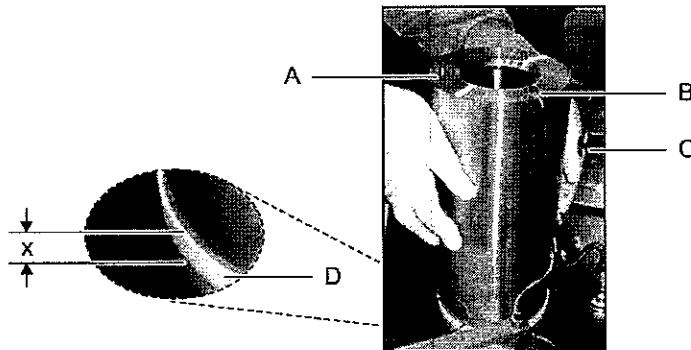

Fig. 6-11 Installation of shield hood
- 2 **Mount teflon strip and shielded hood (see, Fig. 6-11, 72)**